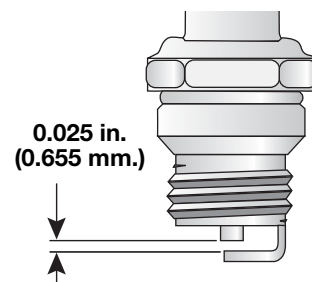

Fig. 45
3. Replace cracked, fouled or dirty spark plug. Set the air gap at 0.025 in. (0.655 mm.) using a feeler gauge (Fig. 45).